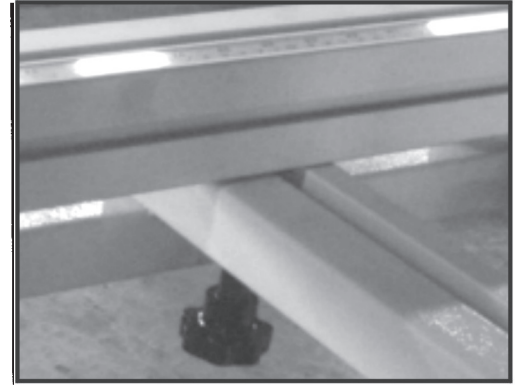

Fig. 19
4. Insert the center stud and the T-bolt in the places indicated (Fig. 19)